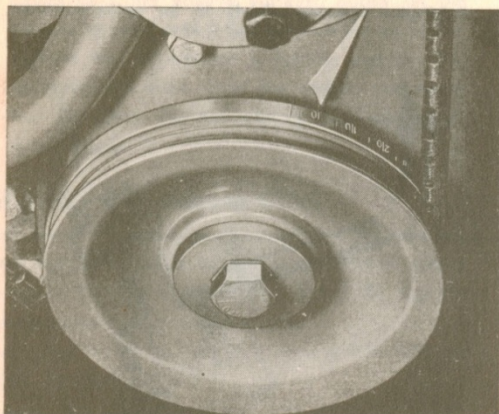

Fig. 1-65. Graduations for timing setting
2. Turn the engine over so that the pointer at the front (Fig. 1-65) is opposite  $5^\circ$  before TDC. Fit the distributor but do not tighten it in position.